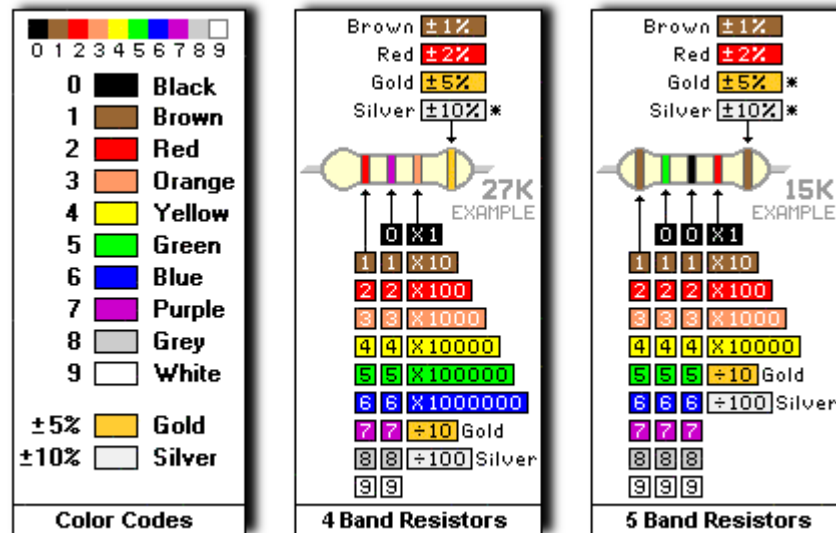

Figure2.8 Resistor Color Codes (<http://hibp.ecse.rpi.edu>)
1. The resistance value itself in ohm, this can be recognized by using an ohmmeter or the color bands that are painted around the resistor's body (see Figure 2.8).